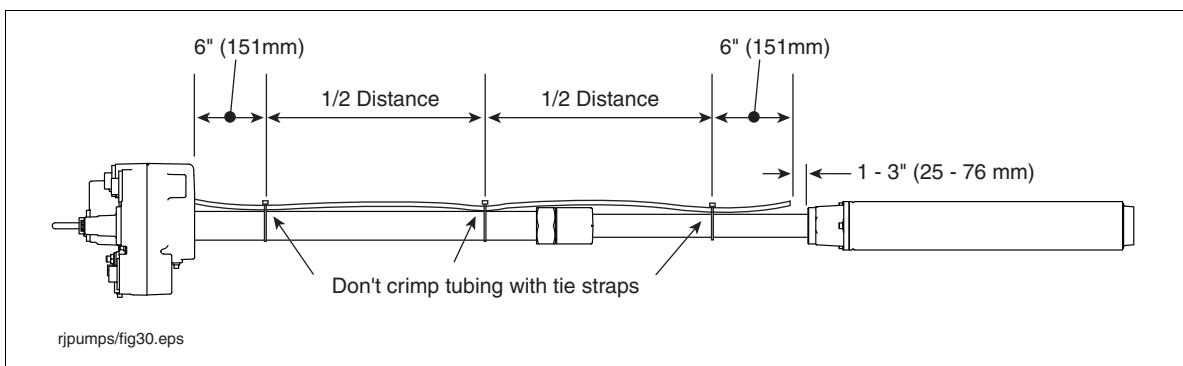

Figure 13. Attaching Return Line Tubing To Pump
9. Secure the siphon return line tubing to the column pipe with tie straps. Locate the tie straps approximately 6 inches (152 mm) from the manifold, 6 inches from the discharge head and in the middle of the tubing (see Figure 13).